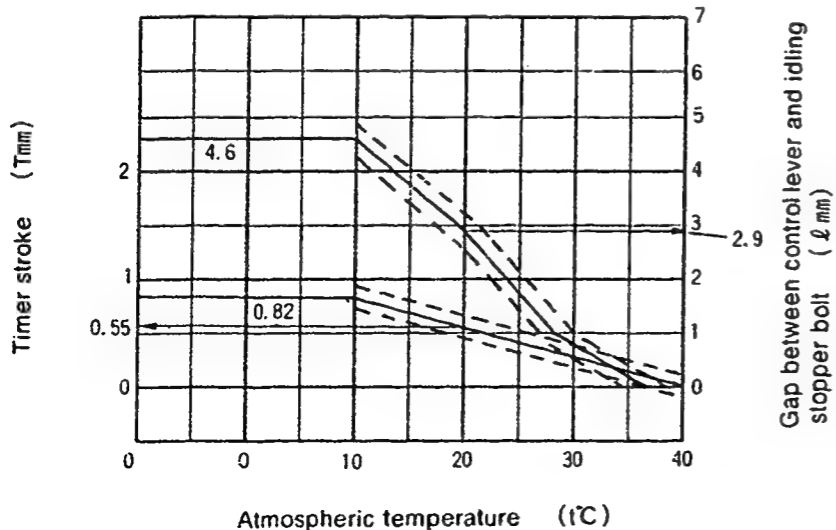

Fig. 2
1. Calculate the timer stroke from Fig. 2 according to the atmospheric temperature at the time of adjustment.
Formula for calculating Fig. 2
1. Calculate the block gauge dimension $l \pm 0.05$ mm from Fig. 2 according to the atmospheric temperature at the time of adjustment.
2. Insert the block gauge (thickness gauge) selected in Step(1) above between the bracket and the idling stopper bolt.